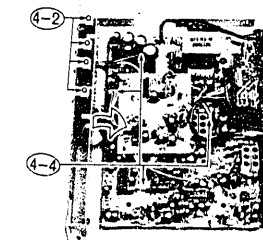

Fig. 4
4. Front Switch Circuit Board Removal (Fig. 4)